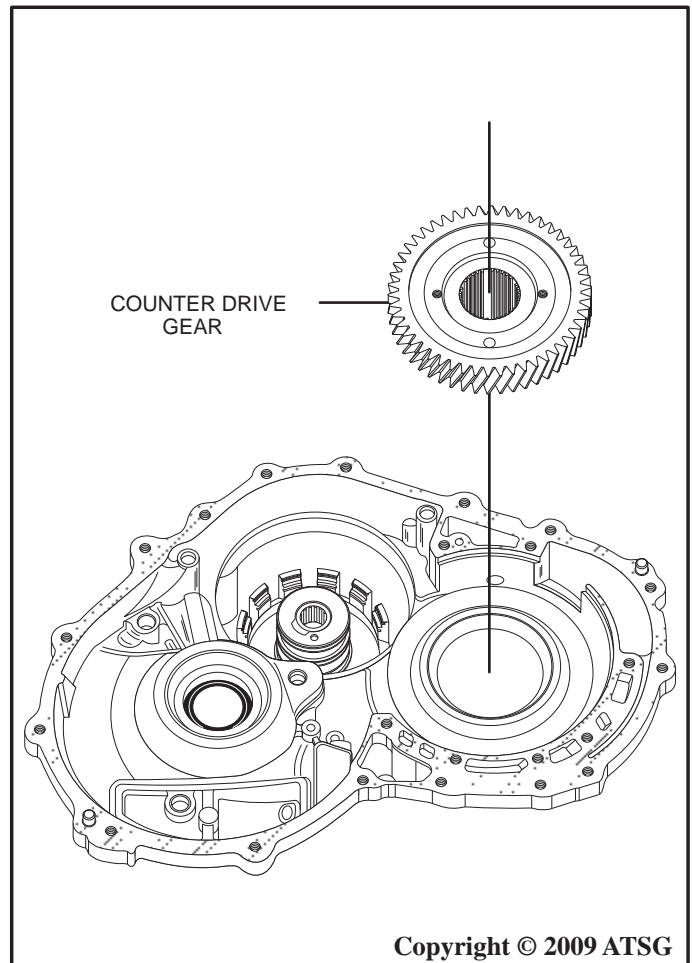

Figure 56
96. Once the front planetary assembly splines are pressed down and through the counter drive gear, remove the counter drive gear by lifting straight up as shown in Figure 56.